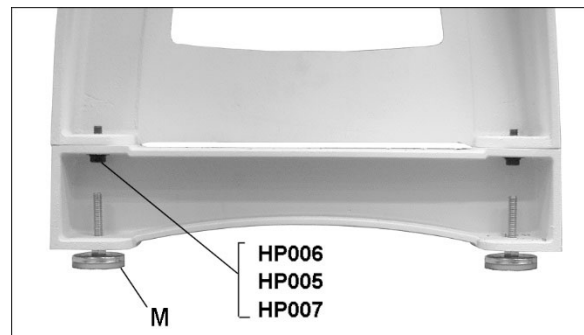

Figure 5-2: riser blocks and feet
See Figures 5-2 and 5-3.
2. Install adjustable feet into bottom of legs or riser blocks (Figure 5-2) and tighten hex nut against leg casting. The feet can be adjusted later.
6. Rotate adjustable feet (Figure 5-2) as needed to establish level for the lathe. Tighten hex nut on each foot against leg casting.